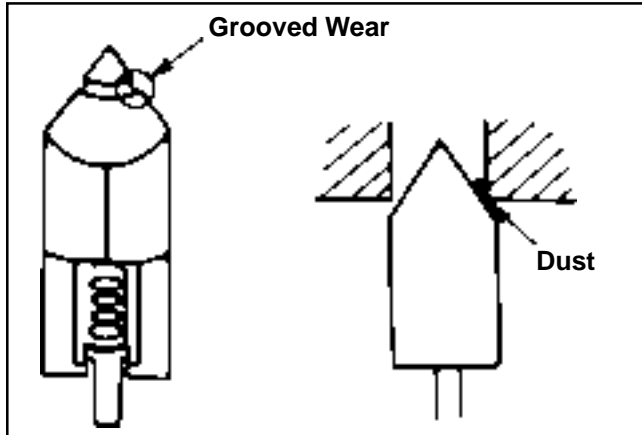

Figure 5-6. Inlet Needle and Seat Wear/Damage Details.
- d. Check components for contamination, wear, or damage. See Figure 5-6. Use carburetor cleaner to clean out any dirt or contamination. Use a float kit if the inlet needle or float is damaged or worn. If the inlet seat is damaged or worn, the carburetor must be replaced.